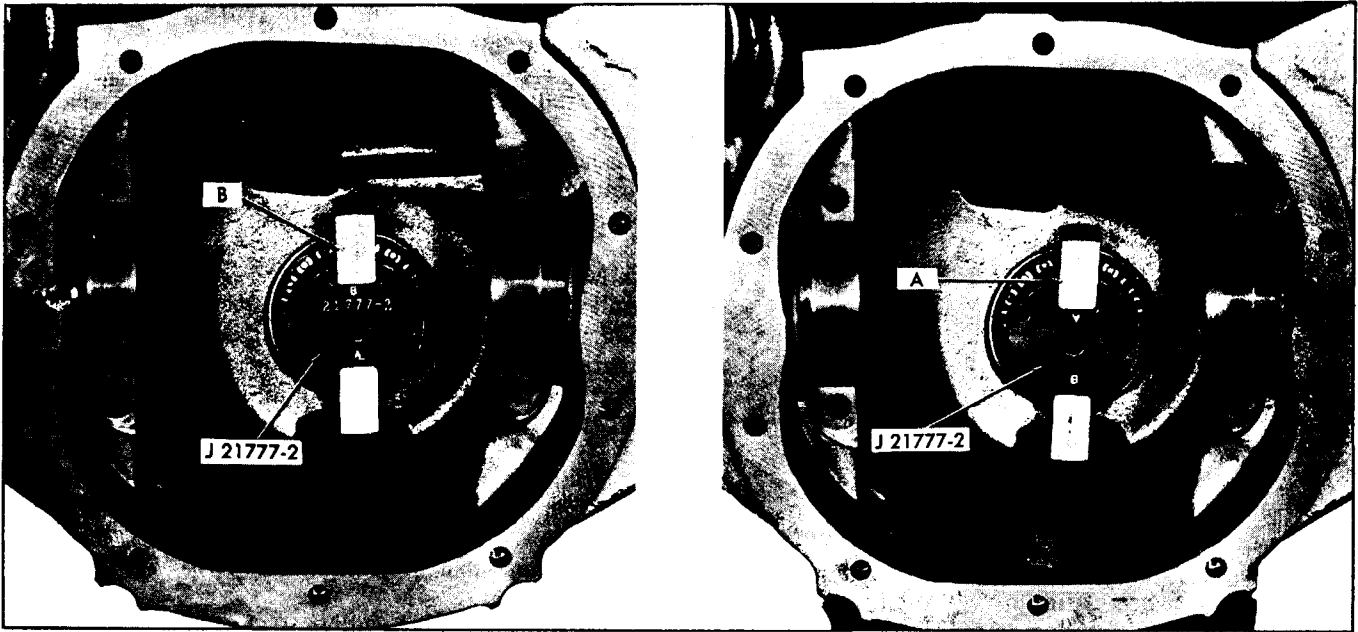

Fig. 4A-39 Gauge Plate Installed
NOTE: Pontiac - Fifteen (15) shims are available in increments of (.002") two thousandths from .020" to .050" (Fig. 4A-41).
Tempest, Firebird, or Grand Prix - Ten (10) shims are available in increments of (.002") two thousandths from .020" to .038" (Fig. 4A-41).